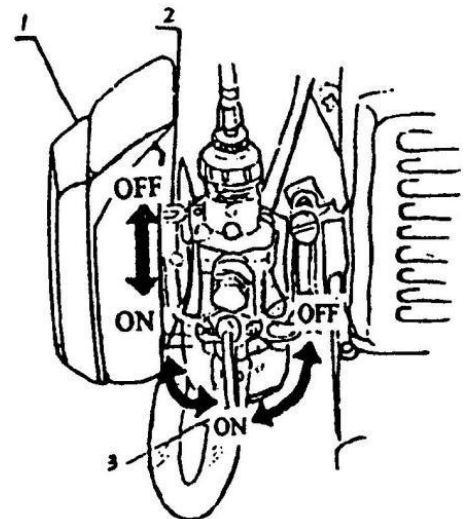

Fig. 9
- 1) Turn the fuel valve to the "ON" position, see Fig. 9.